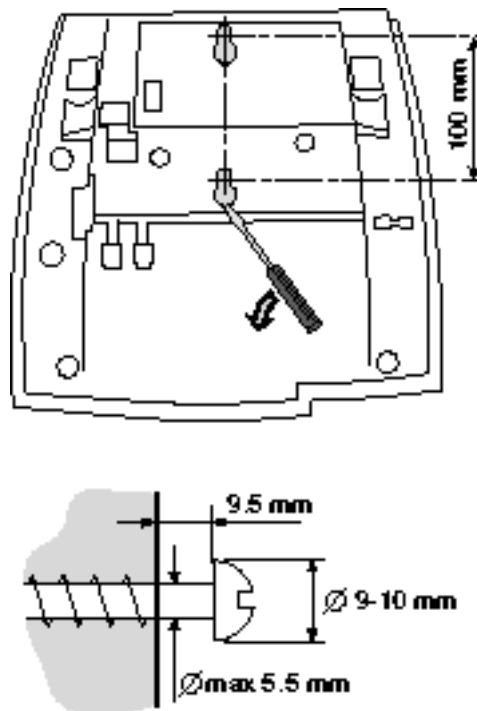

Figure 2: Positions and dimensions for screws
- Mount two screws (diameter 5.5 max) vertically with 100 mm distance and 9.5 mm space to the wall, see Figure 2 Positions and dimensions for screws on page 10.